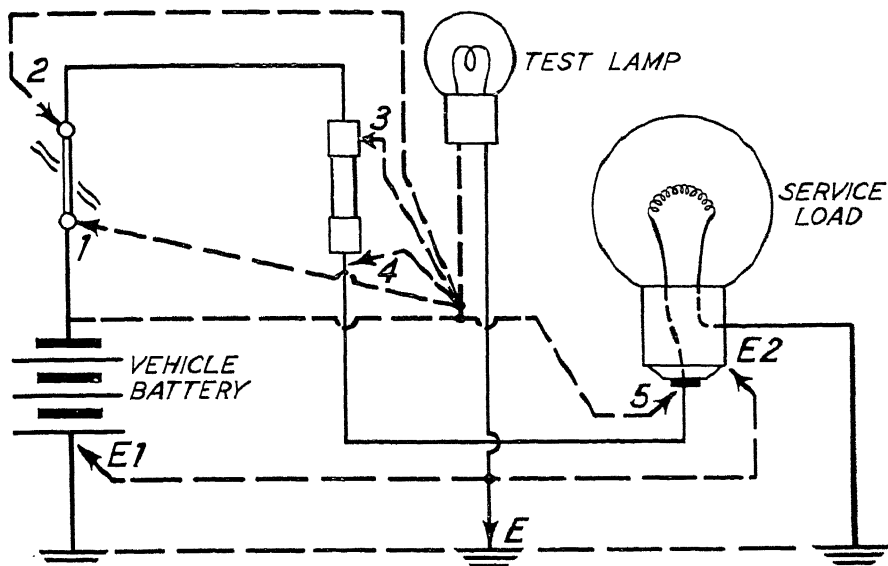

Fig. 5.—TESTING FOR OPEN CIRCUIT
Fig. 5 shows a battery, switch, and lamp in series, the switch closed, but the service lamp inoperative due to an open circuit. The test lamp is shown connected to successive points, which, if taken in order, cannot fail to locate the fault. One lead from the test lamp is connected to common "earth" and the other applied first to point (1), when, if the lamp lights, we have established continuity of circuit from this point back to earth (E). The search is continued by testing in order at points (2) including switch, (3) cable from switch to fuse, (4) fuse, and (5) cable from fuse to lamp.